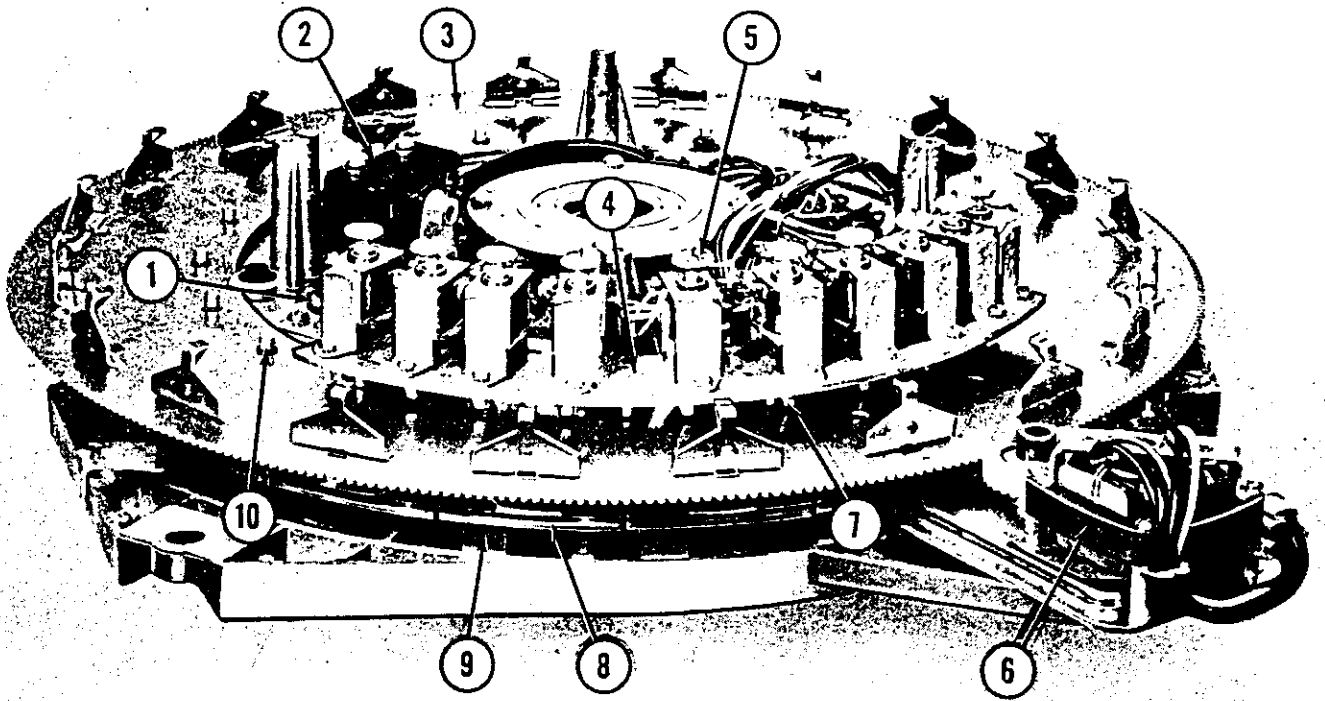

Fig. 31. ELECTRIC SELECTOR, SELECTION COMPONENTS
(5) The assembly of the above components as shown in Figure 31 provides the means for selection and release of any one of the 200 selector latch pins described in paragraph (1).
3. OPERATION (See Fig. 31)